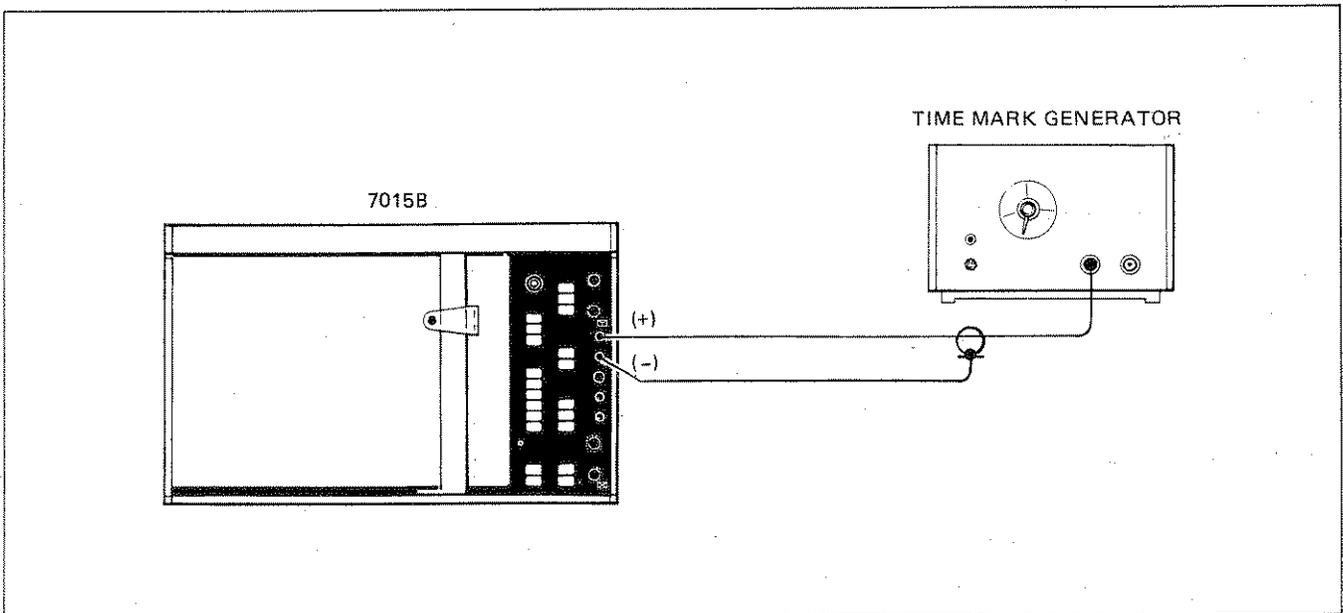

Figure 4-9. Connection for Time Base Check
- Install HP Model 226A Time Mark Generator to Y-axis inputs of recorder per Figure 4-9. This generator will be used as a time reference for checking the sweep. If a time mark generator is not available, a stop-watch may be used as an alternate time reference.